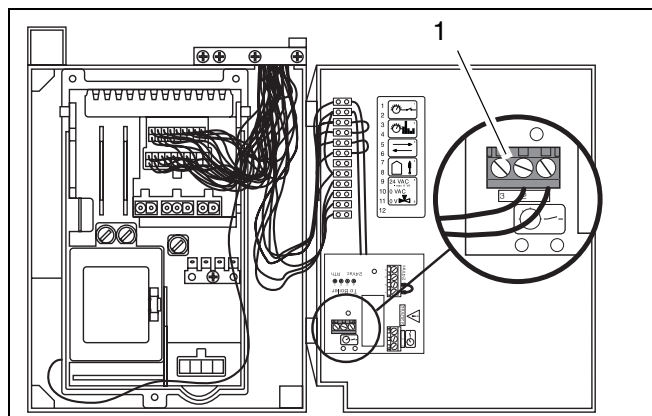

Fig. 21 Connection box in burner-control unit - potential free connection
- Connect the potential free room-temperature control device at fig. 21, item 1.